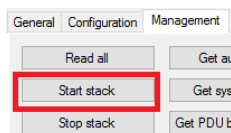

Figure 3: Start the sink
- d) Start the radio stack on the "Management" tab (see figure 3).